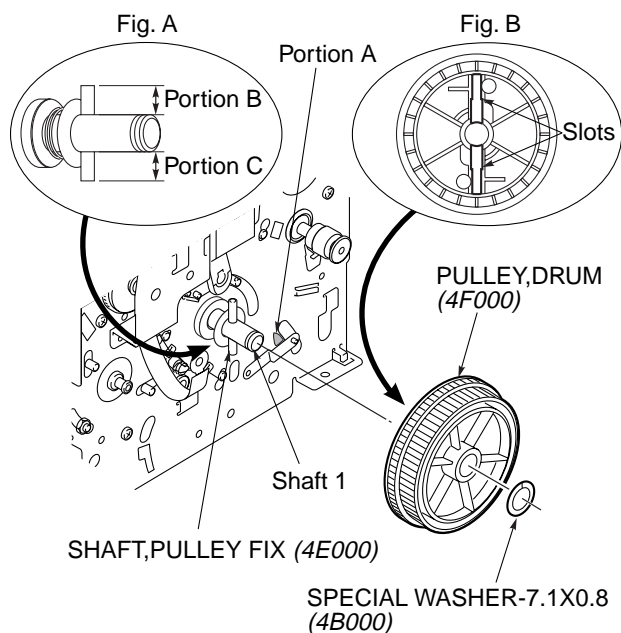

Fig. 3-8-1
(See Fig. 3-8-1)
1. Apply grease (VJ8-0229) to portion A as shown in Fig. 3-8-1.